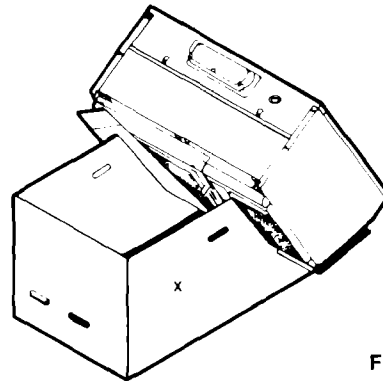

Figure 17
6. Nest oven on carton part "Y" in V cut of carton part "X" so that back of oven is facing out. (See figure 17.)